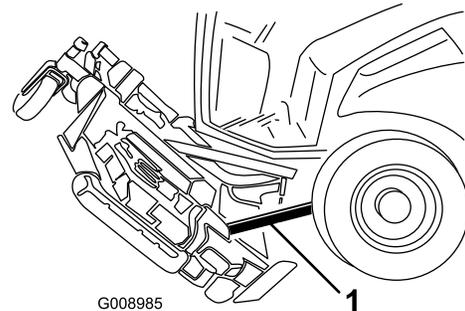

Figure 138
6. Wedge a block of wood between the rear of the deck and the machine (Figure 138).